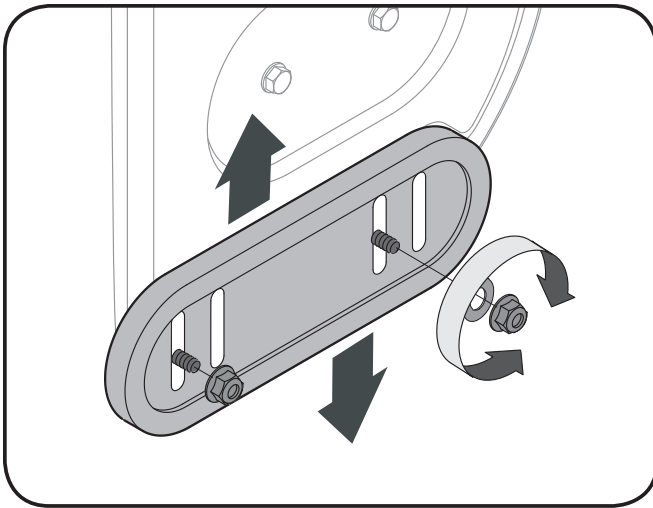
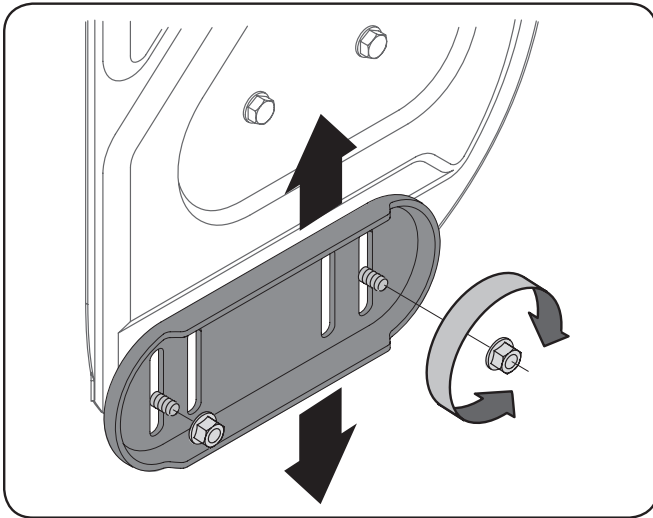

Figure 3-13
Figure 3-14
1. Loosen the four hex nuts (two on each side) and carriage bolts. Move skid shoes to desired position. See Figure 3-13 and Figure 3-14.